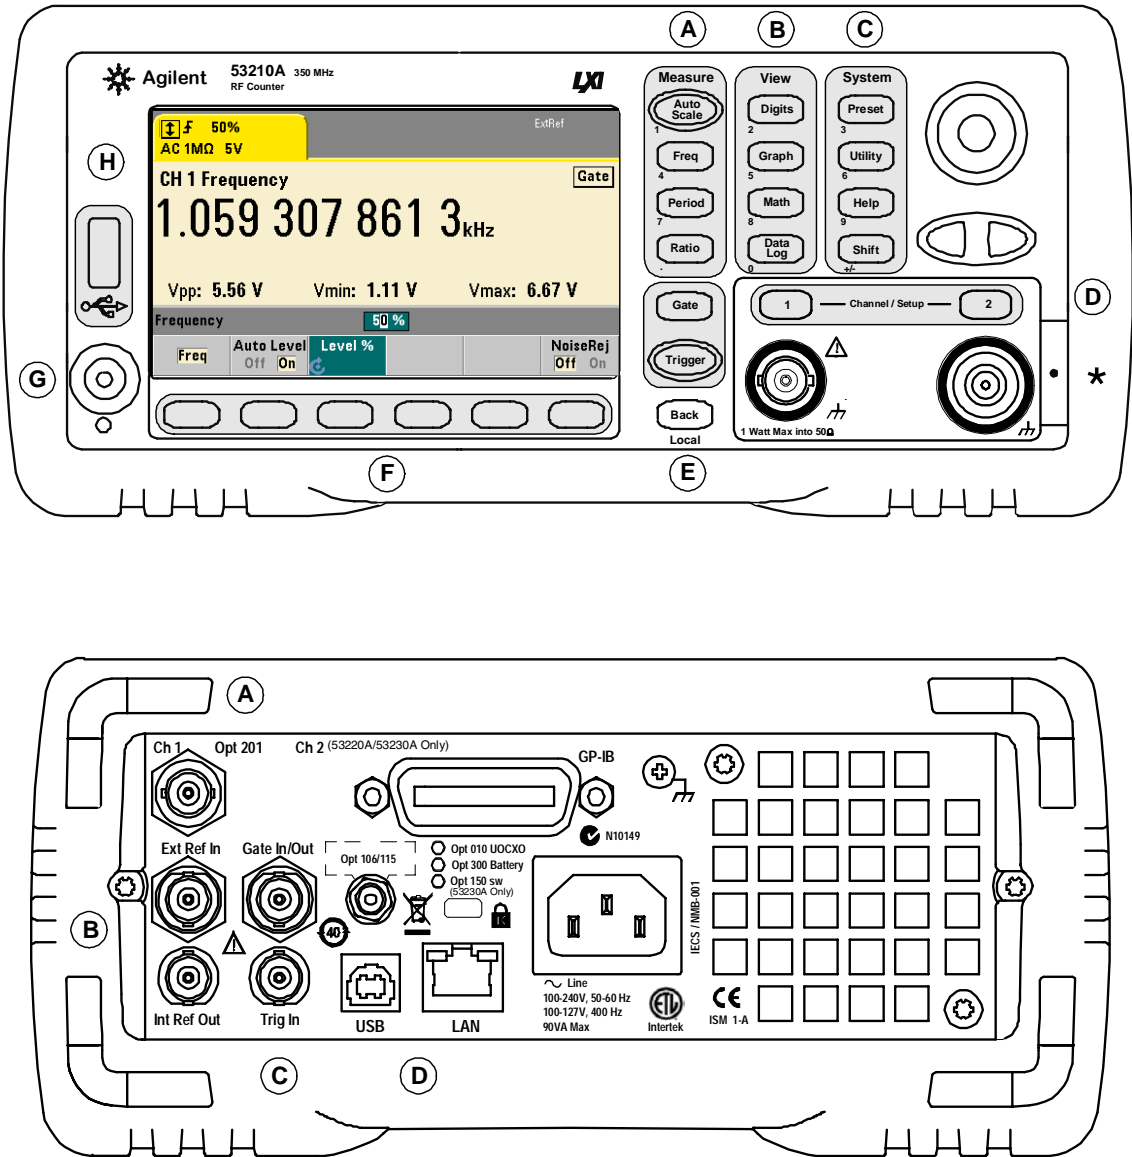

Figure 1-1. The 53210A Universal Frequency Counter/Timer.
Figure 1-1 shows the front and rear panels of the Agilent 53210A 350 MHz RF Counter.
D. Channel Keys - select the input channel and displays the soft key menu used to configure the input signal path. Note that Figure 1-1 includes Channel 3 Option 106 / 115. Signal path configuration is covered in **Chapter 4**.
The 53210A rear panel shown in Figure 1-1 includes product Option 201 (parallel rear panel input) and GPIB interface. The rear panel terminals are briefly described below.